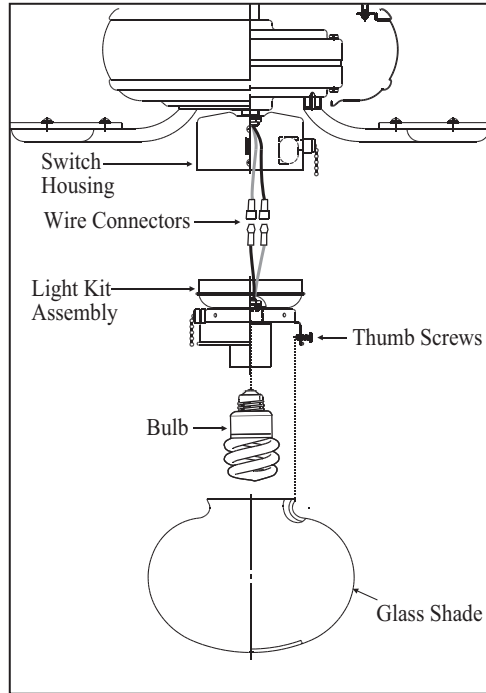

Figure 20
2. Carefully push all wires back into the switch housing, then install the light kit assembly onto the switch housing with 3 screws provided. Be sure to tighten all screws. (Fig. 20)
4. Mount the glass shade to the light fixture by unscrewing partway the thumbscrews on the glass holder, insert the glass, then gently tighten the thumbscrews by hand evenly to the glass. **DO NOT OVER TIGHTEN.** (Fig. 20)